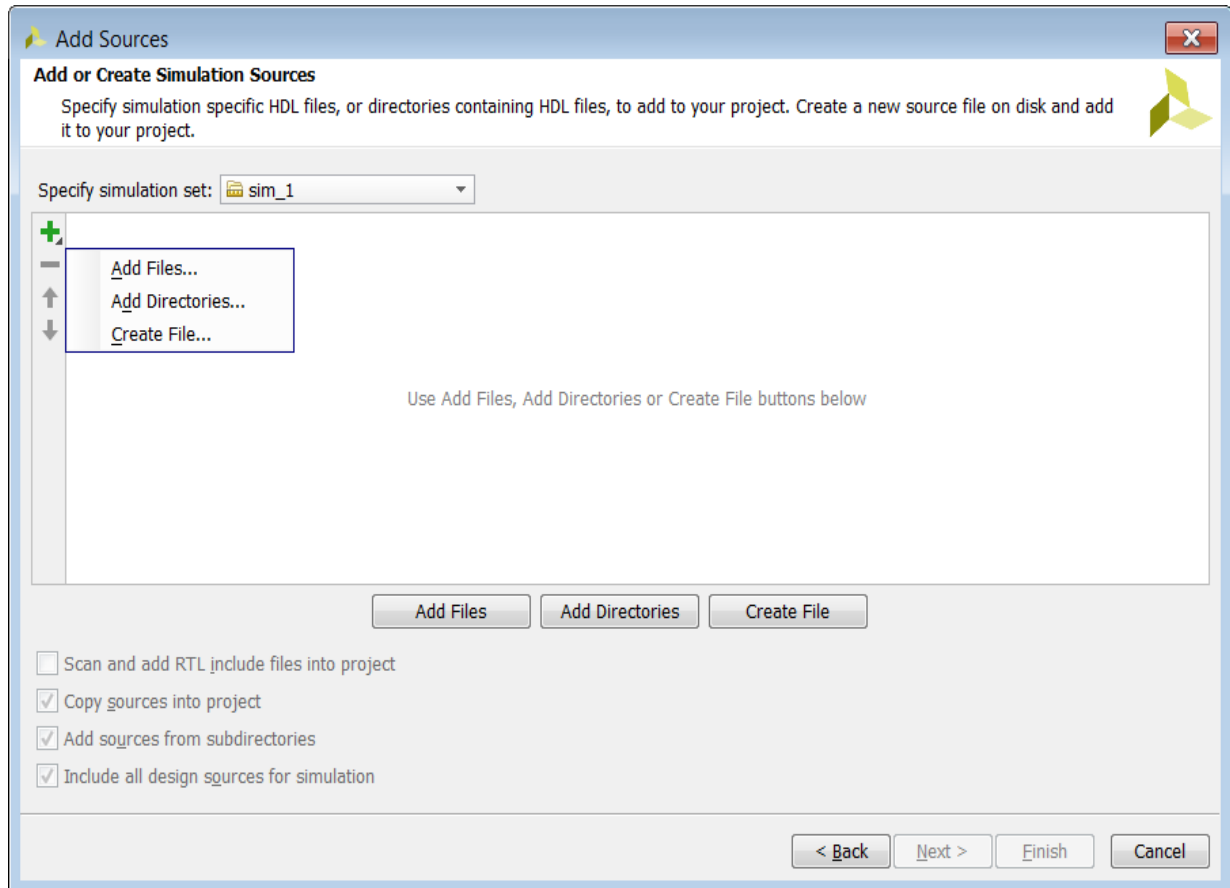

Figure 9-25: Add Source Dialog Window
5. In the Add Sources dialog box, click the "+" symbol Figure 9-25 and select **Add Files**.